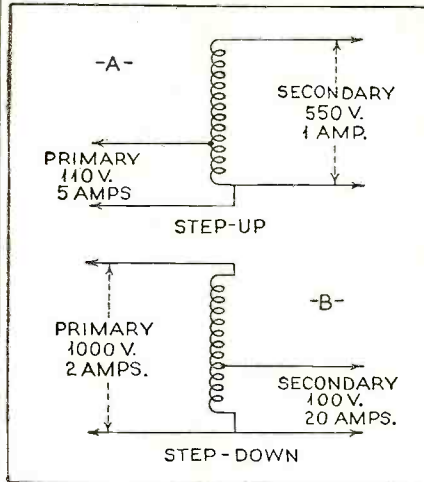

Figure 1. (A) A step-up auto-transformer. (B) A step-down auto-transformer
THE ordinary type of transformer has its primary and secondary windings distinct and insulated from each other. It is not necessary to have the two windings distinct, however. In the *auto-transformer* shown in Figure 1 the secondary winding is connected to the primary winding. This type of transformer may be built either to step up the voltage as in (A), in which case the primary winding is a portion of the secondary, or it may be built to step down the voltage as at (B), in which case the secondary winding is a portion of the primary. The position of
the tap on the winding determines the voltage and current ratios of the primary and secondary. The voltage across the secondary winding bears the same relation to that across the primary part as though there were two separate windings, and the ratio of the voltages is the ratio of the number of turns included between the secondary and primary terminals, just as in the case of the ordinary transformer. The voltages and currents for a particular case are also shown in Figure 1.